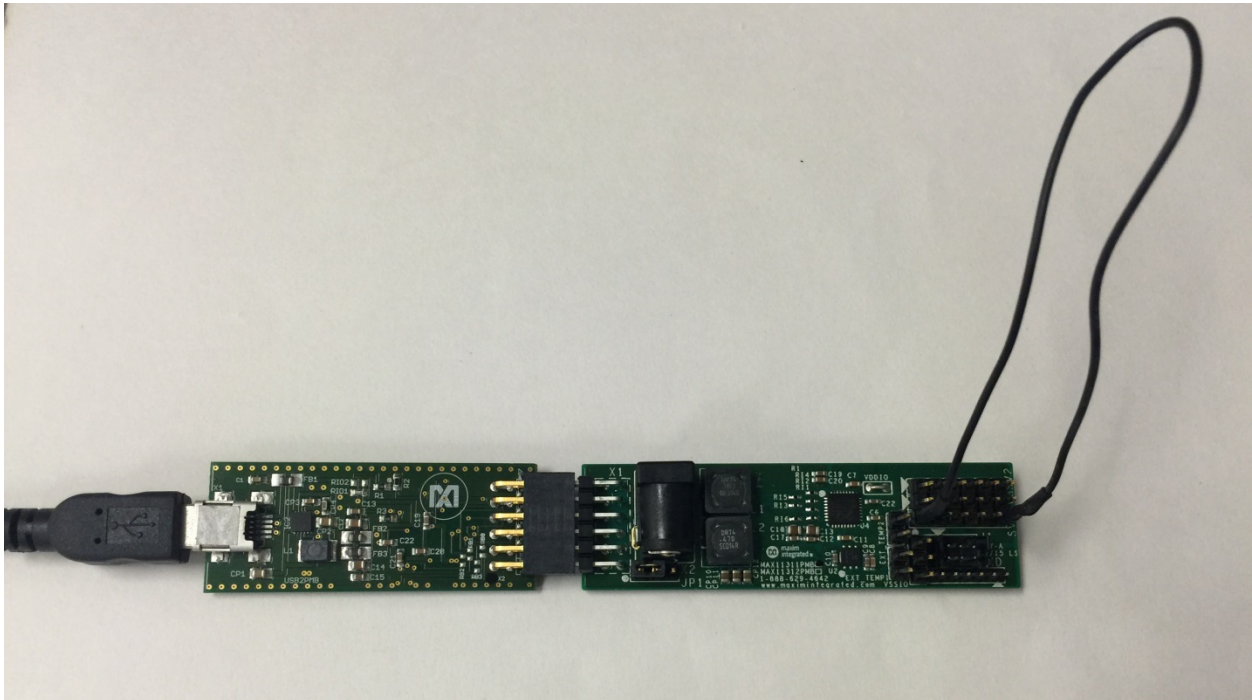

Figure 25. P0 connected to P5.
3. Use a jumper wire to connect P0 to P5 as shown in **Figure 25**.